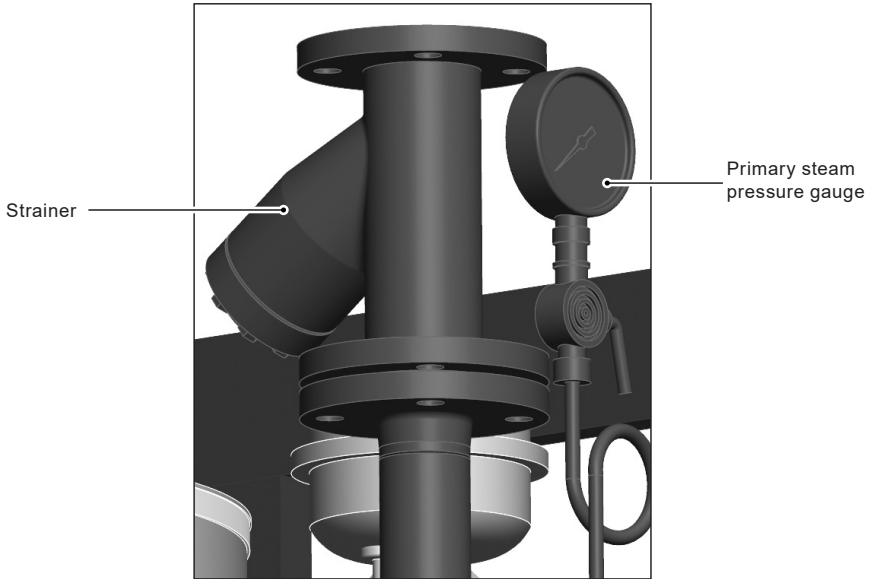

Fig. 17
5.4.3 Pressure gauge (primary steam) - Figure 17 (see page 36)
5.4.5 Strainers - Figure 17